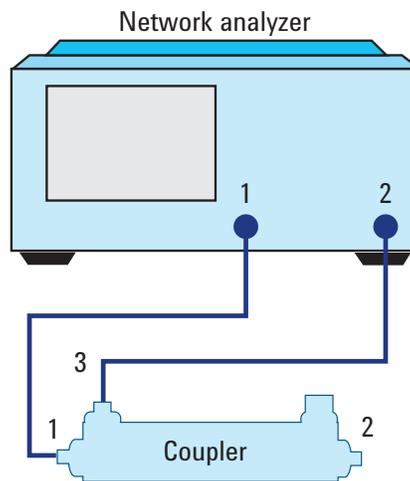

Figure 11. Equipment setup using network analyzer with coupler port 1 and port 3
5. Move test port 2 to port 3 of DUT, see Figure 11. **The unused port to be terminated with a 50 Ω termination.** Measure and record coupled port VSWR (S33) and verify the measurement is within the limits as shown in the specification.
7. With the same setup as Figure 11, normalize S_{31} ⁴.